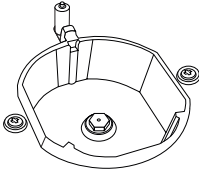

Figure 5
2. Please remove nozzle (Figure 5) from burner with special nozzle driver and install new nozzle (Figure 6)